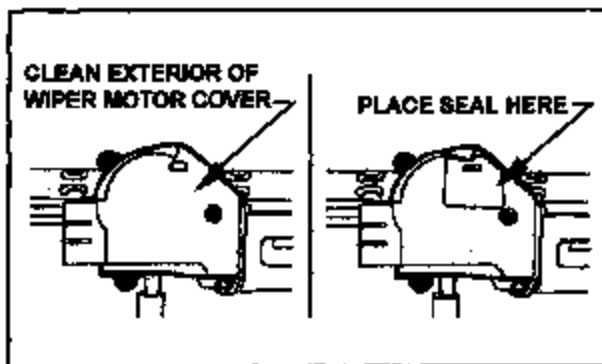

Figure 5
17. Clean the exterior surface of the wiper motor cover thoroughly. It must be free of dirt, grease, oil, and other contamination (see figure 5).
20. Remove the backing material from the seal, align it over the wiper motor cover so that it completely covers the vent and press it firmly into place as shown in the above illustration. Apply firm pressure across the entire surface of the seal and around all outside edges. Continue applying pressure a second time to the edges to assure full adhesion (refer to figure 5).